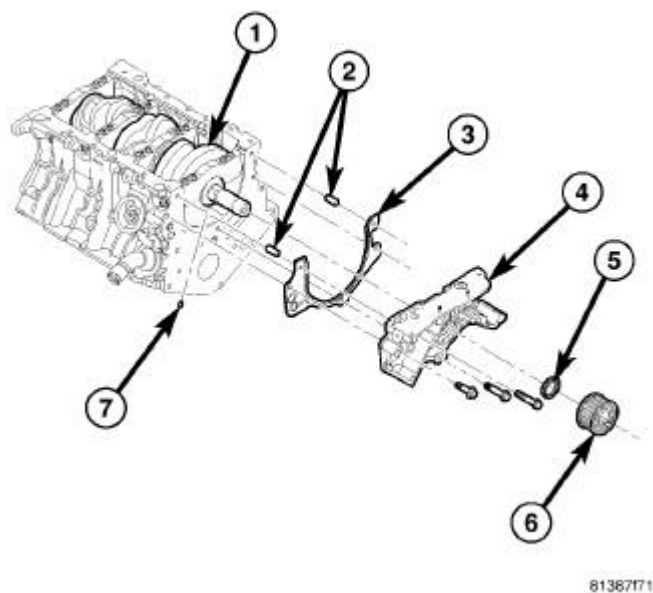

Fig. 430: Oil Pump & Crankshaft Gear Assembly
6. Remove the oil pump fasteners. Remove the oil pump and gasket from engine. Refer to **Fig. 430**.